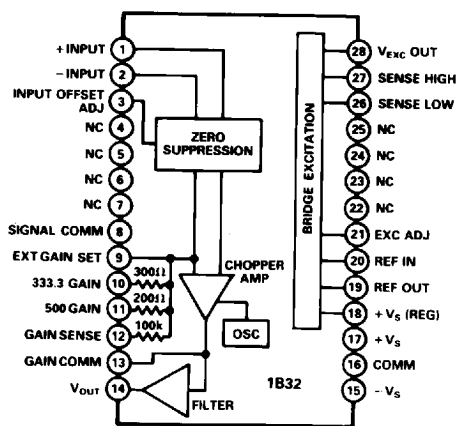
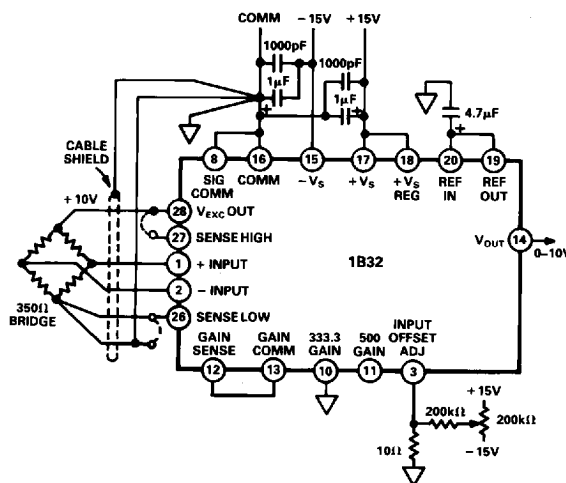

Figure 1. 1B32 Block Diagram and Pinout
Figure 2. Internal Gain Strapping
As shown in Figure 1, the gain can be pin-strapped by an internal resistor network. Standard gains of 333.3 and 500 can be achieved by this method with gain tempco of  $\pm 6\text{ppm}/^\circ\text{C}$  max. Finally, the offset adjust of the amplifier is input referred, and requires a voltage input similar to the differential input voltage to implement wide range suppression.
**Gain Setting:** The differential gain of the 1B32 can be either pin-strapped or programmed externally with two resistors. The internal thin-film gain network (Figure 1) provides gains of 500 and 333.3 for standard load-cell sensitivities of 2mV/V and 3mV/V. This is achieved by connecting GAIN SENSE (Pin 12) to GAIN COMM (Pin 13) and grounding Pin 10 or Pin 11 (Figure 2). The gain tempco using the internal network is an excellent  $\pm 2\text{ppm}/^\circ\text{C}$  typ ( $\pm 6\text{ppm}/^\circ\text{C}$  max).
**Offset Adjustment:** The input-referred offset adjust has the same sensitivity as the inputs of the 1B32. The voltage level at INPUT OFFSET ADJ (Pin 3) is gained by the same factor as the input signal to provide a  $\pm 10V$  output adjust. Figure 2 shows an external network and potentiometer set up for a  $\pm 7.5\text{mV}$  span at the input, which gives a  $\pm 2.5V$  ( $7.5\text{mV} \times 333.3$ ) output adjust capability. Wider ranges can be chosen with the appropriate resistor and potentiometer values.
The remote sensing inputs should be connected to the transducer separately from the excitation leads or jumpered as shown in Figure 2. The resistance of the excitation and sense lines should not exceed 10Ω.
**Power Supply:** The  $V_S$  REG input (Pin 18) should be connected to + $V_S$  (Pin 17) even if the bridge excitation section is not used. Also the power supplies should be decoupled with 1µF tantalum and 1000pF ceramic capacitors as close to the 1B32 as possible (Figure 2).